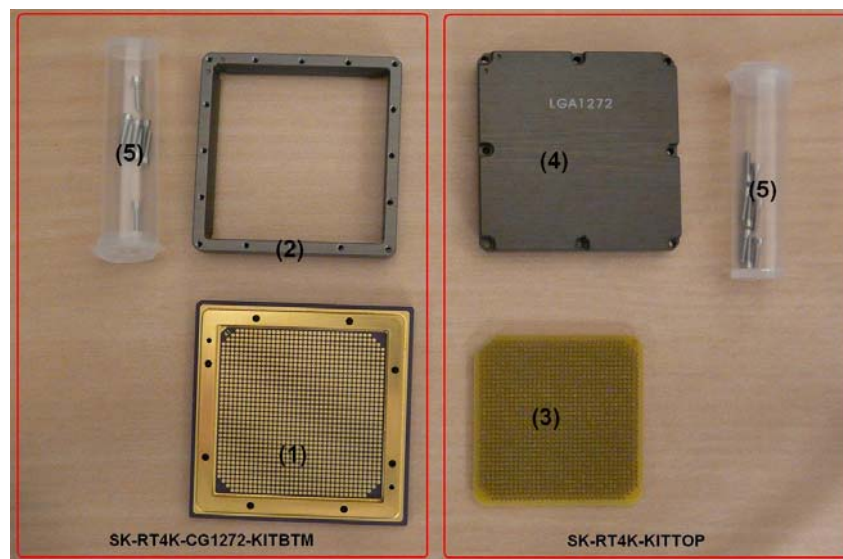
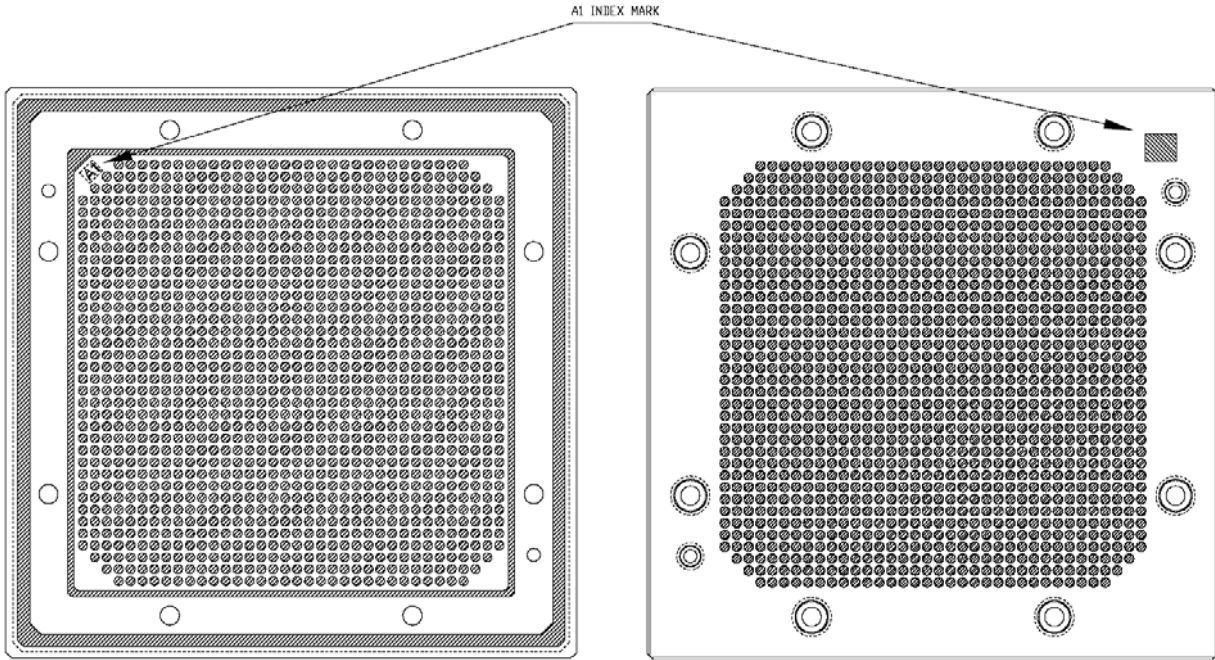
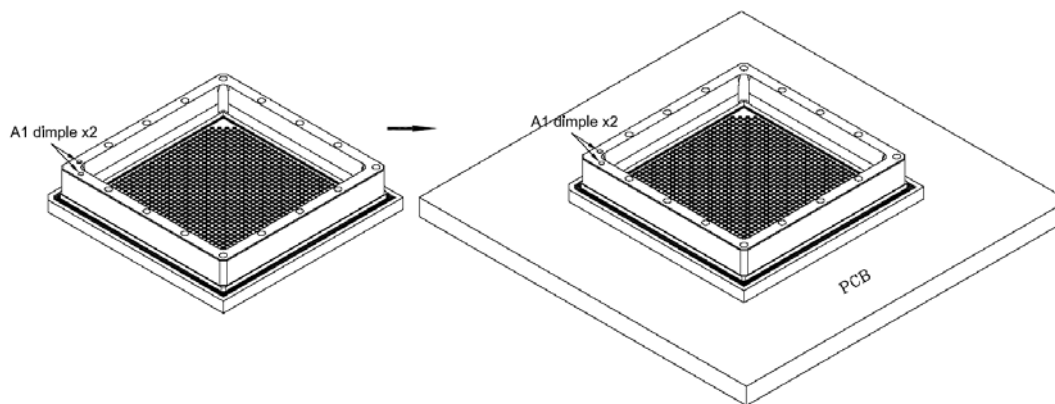
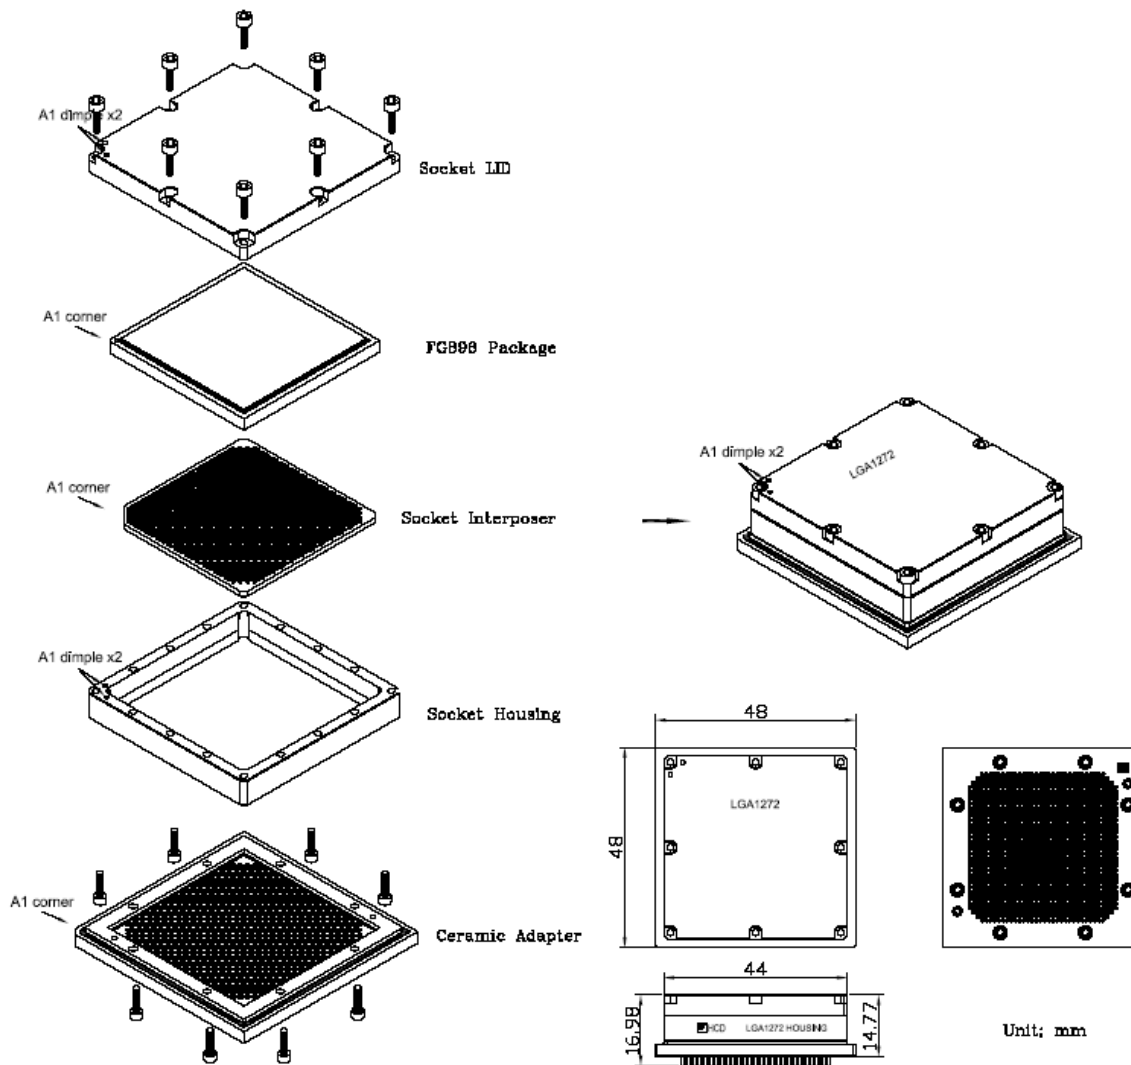

Figure 1 • Parts of CG1272 to LG1272 Adapter Socket
Figure 2 • RTAX4000S/SL CG1272 to LG1272 Ceramic Adapter
Figure 5 • Reflow Adapter (with socket housing mounted) to PCB
Figure 9 • CG1272 to LG1272 Adapter Socket Outline Drawing (unit: mm)
Figure 1 shows the complete CG1272 to LG1272 assembly kit. SK-RT4K-KITTOP contains an interposer (3), a socket lid (4), and eight screws (5). SK-RT4K-CG1272-KITBTM contains a ceramic adapter (1), which is a unique adapter for RTAX4000S/SL, socket housing (2), and eight screws (5).
Figure 2 shows the top view, bottom view, and orientation view of the RTAX4000S/SL CG1272 to LG1272 adapter.
Reflow the adapter to the printed circuit board (PCB) as shown in (Figure 5).
The following figures were replaced (27425): Figure 1 • Parts of CG1272 to LG1272 Adapter Socket Figure 2 • RTAX4000S/SL CG1272 to LG1272 Ceramic Adapter Figure 5 • Reflow Adapter (with socket housing mounted) to PCB Figure 9 • CG1272 to LG1272 Adapter Socket Outline Drawing (unit: mm)	1 2 4 6